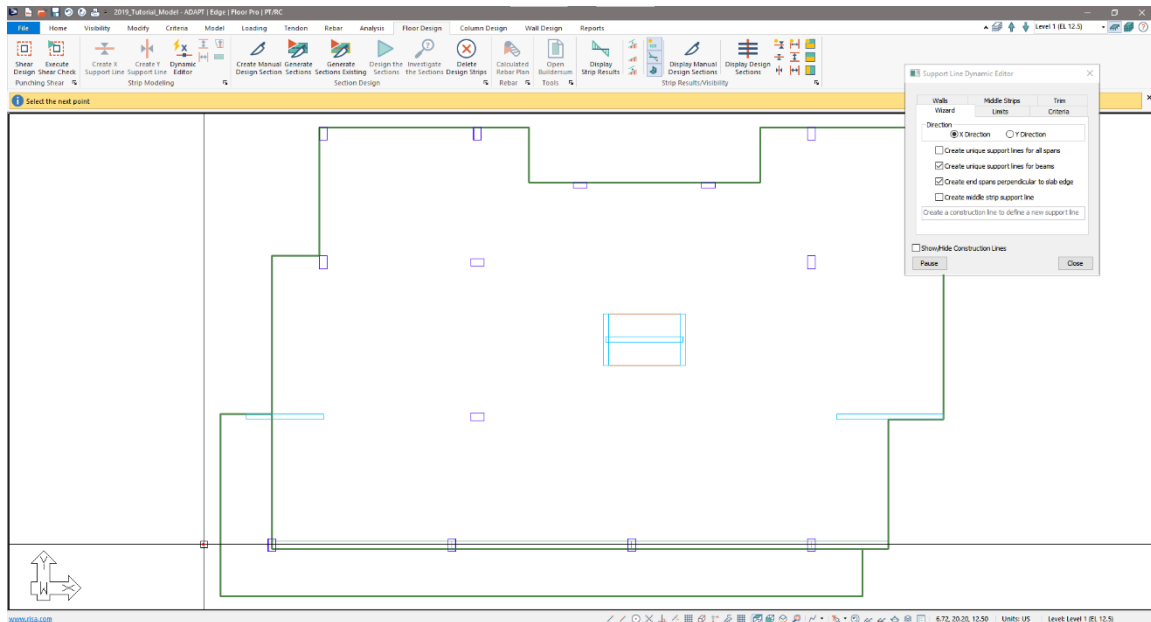

Figure 9-6
- Position your mouse to be along the lower column line but outside of the slab region to the left of the slab as shown in **FIGURE 9-6**.